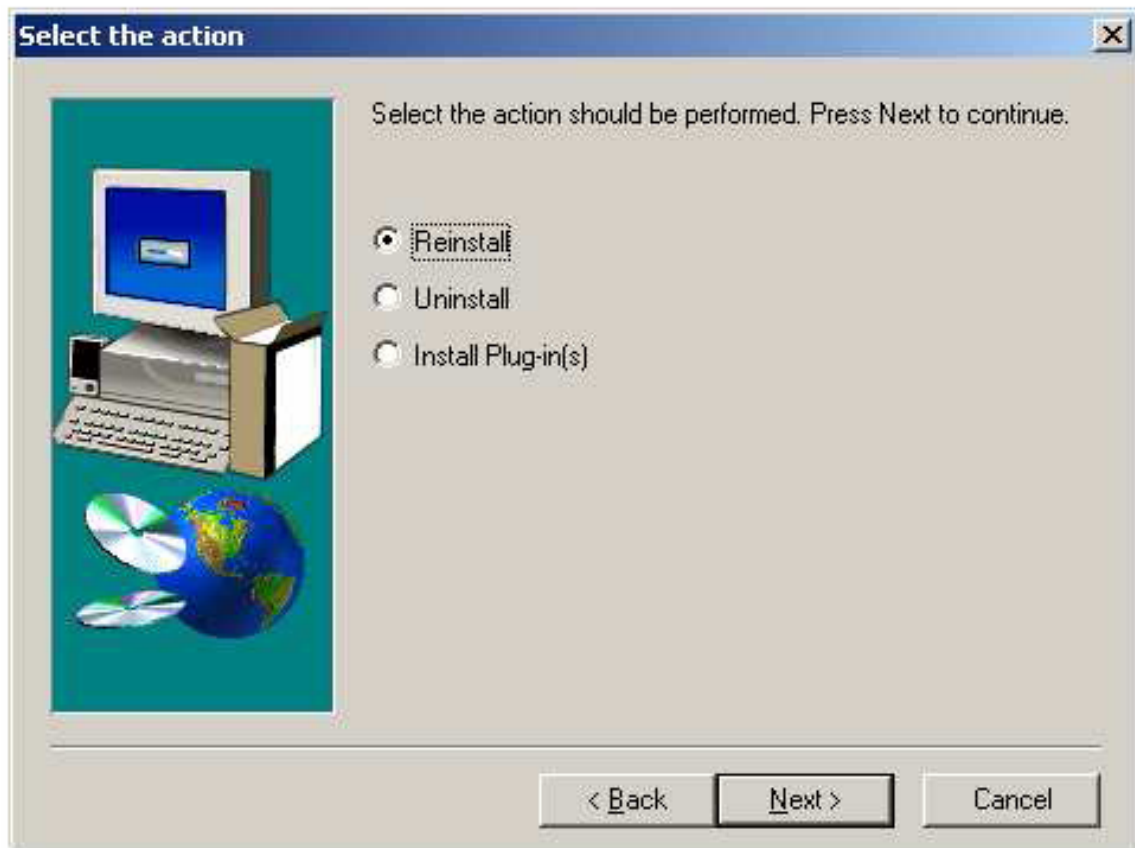

Figure 1-2. Select Action
1. Select Reinstall to install the new version of NORMA View Basic (or reinstall the same version) as shown in Figure 1-2.